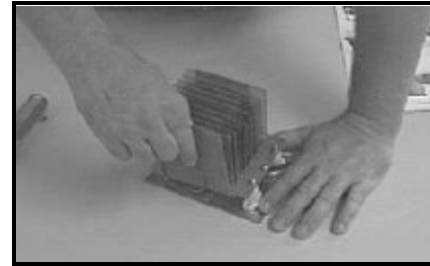

Figure 5
2. Grip plate just retainer clip gently lift up approx. 3/4 of the way, then re grip generator plate just above retainer clip again to ensure that plates do not spread and fall apart upon removal. **(SEE FIG. 5+6)**